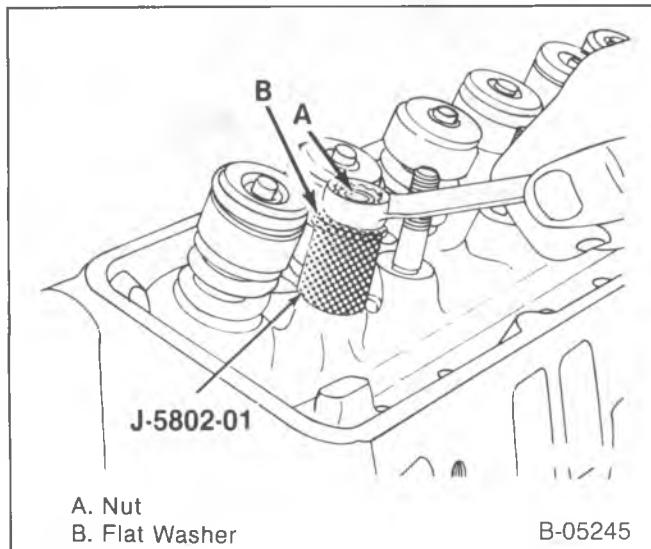

Figure 40—Removing the Rocker Arm Stud
1. Place J 5802-01 over the stud to be removed. Install a nut and flat washer. Remove the stud by turning the nut (figure 40).